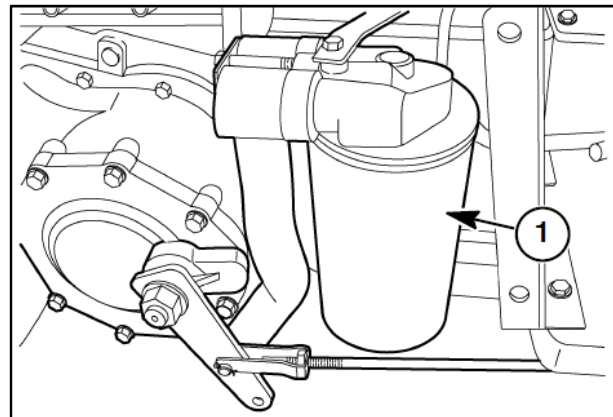

Figure 3-17
The hydraulic system uses a spin-on type oil filter. To replace the filter (1) in Figure 3-17: